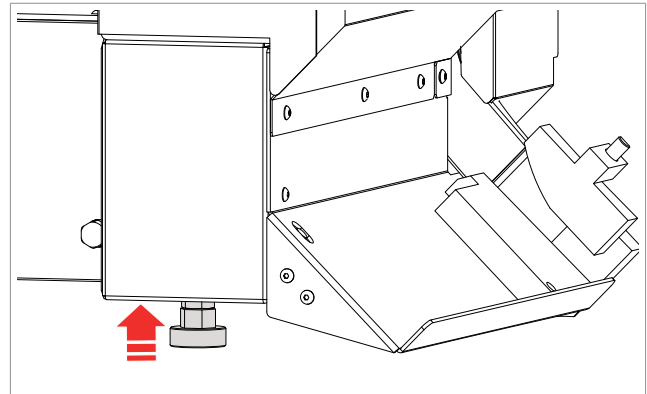

Fig. 131
- 7) Check that the loader foot is completely tightened (Fig. 131).